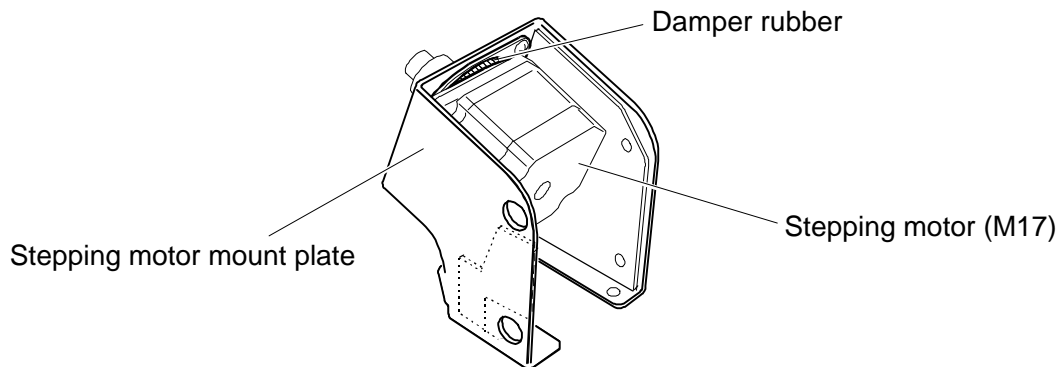

Fig. 1
- The hardness of the stepping motor's (M17) damper rubber will be lowered, resulting in absorption of vibrations (Fig 1).
- A vibration-absorbing paint will be added to the stepping motor's (M17) mount plate (Fig 1).